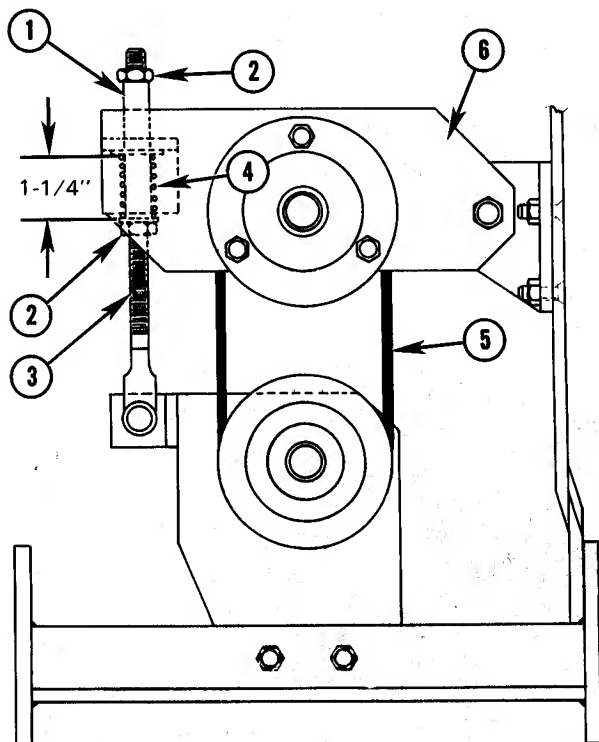
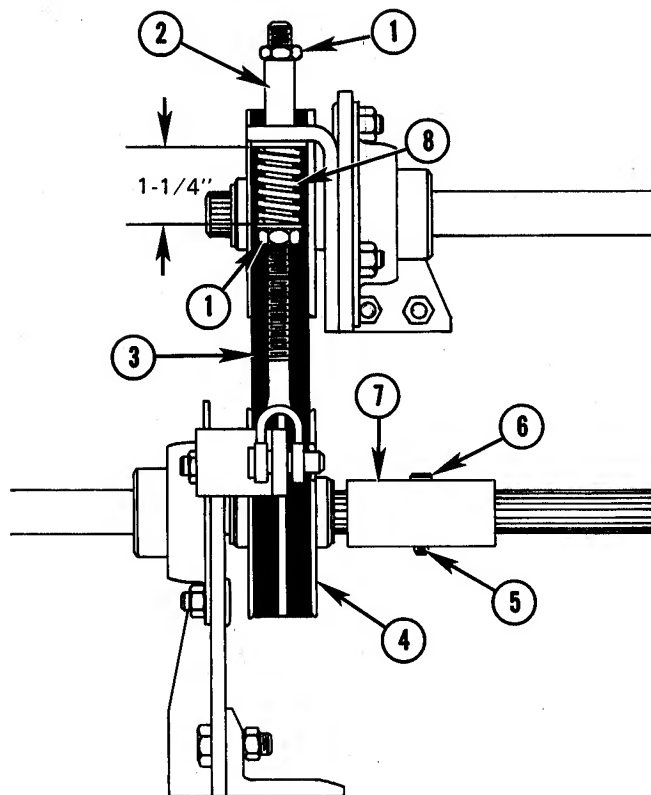

Fig. 26 — PTO Front Belt Adjustment — Rear View
Fig. 27 — PTO Front Belt Replacement
Proper tension of drive belts is when length of spring, No. 4, Fig. 26, is 1-1/4". Check measurement and if necessary adjust nuts, No. 2, until correct spring length is obtained (1-1/4"). (Also see Fig. 27.)
1. Loosen lower adjusting nut, No. 1, Fig. 27, lower upper pulley bracket, No. 6, Fig. 26, and remove belts, No. 5.
2. Remove cotter pin, No. 5, Fig. 27, and clevis pin, No. 6. Slide coupling, No. 7, rearward and remove belts, No. 3, from lower pulley, No. 4.